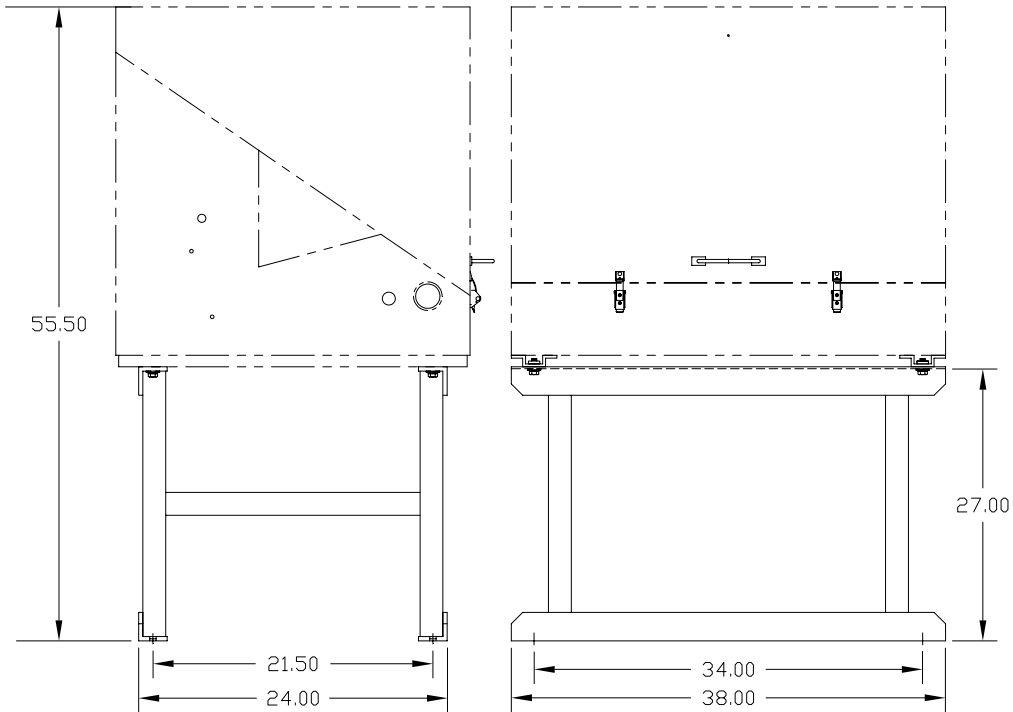

Figure 3 Typical Stand Mount Installation
- 2) Set enclosure on top of stand, oriented so that the stand brace is horizontal with front of enclosure (see Figure 3).